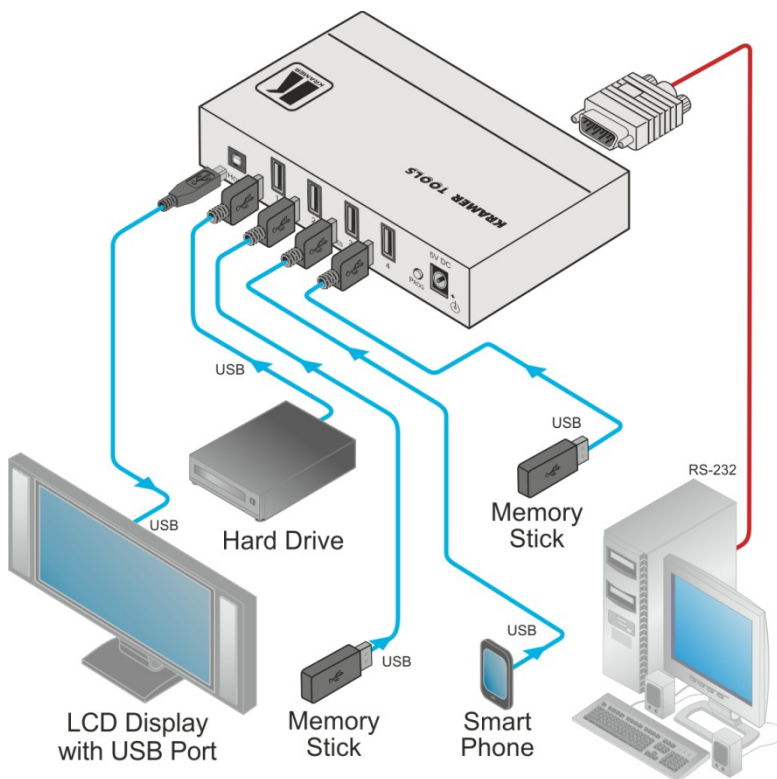

Figure 2: Connecting to the VS-401USB
To connect the **VS-401USB** as illustrated in the example in Figure 2:
4. Connect the 5V DC power adapter to the power socket and connect the adapter to the mains electricity (not shown in Figure 2).